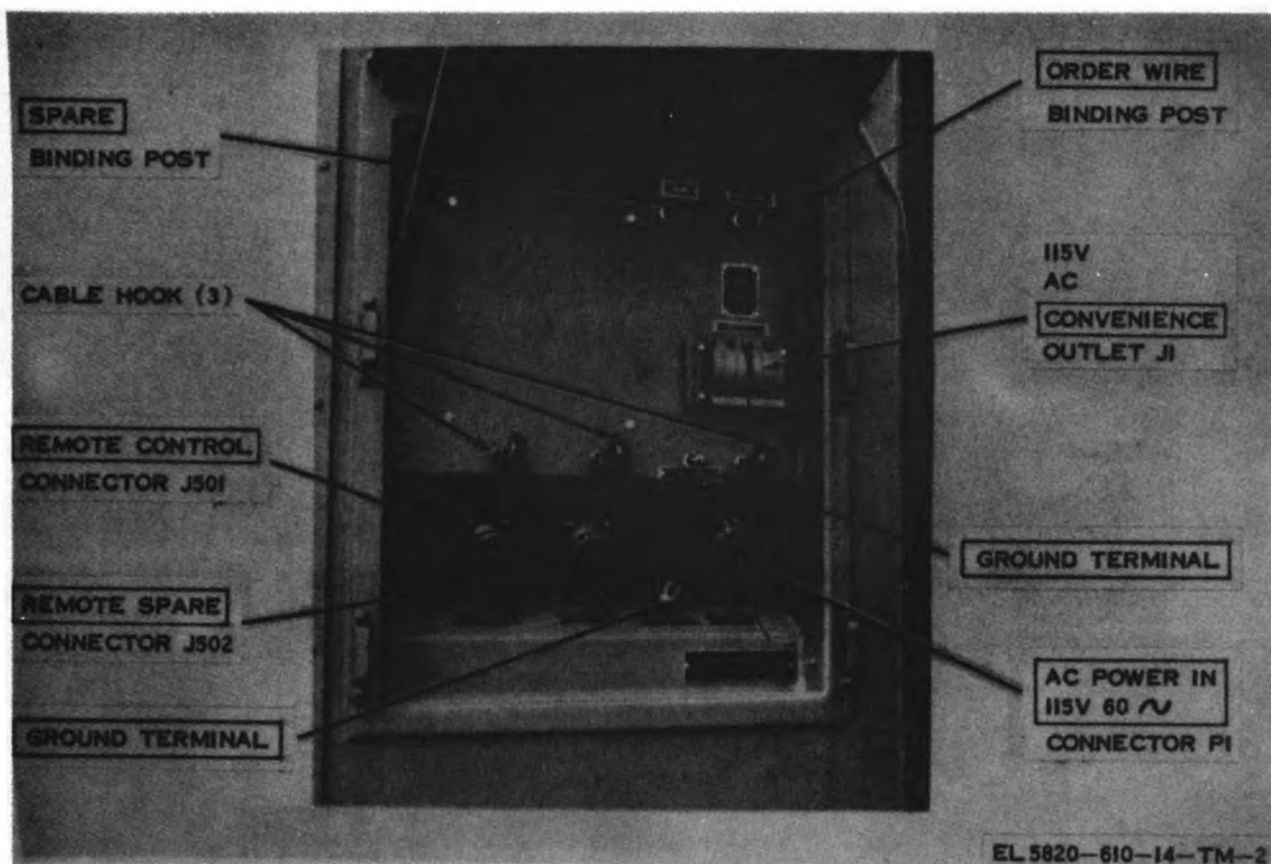

Figure 1-7. AC POWER AND SIGNAL ENTRANCE PANEL.
phase ac power source through the ac power and signal entrance panel (fig. 1-7) when the terminal is in a fixed or semifixed position. During mobile operation, the radio equipment located at positions 1 and 2 is powered from the 28-volt direct current (dc) vehicular electrical system through the dc power and signal entrance panel (A, fig. 1-8) in conjunction with dc Power Supply PP-4765/GRC-159(V) (Collins Model 516E-2). Tuner, Radio Frequency TN-339/GR is provided for use with the whip antenna when operating below 20 MegaHertz (MHz). In addition, Amplifier, Radio Frequency AM-3979/FRC-93 is provided to allow any one of the five positions to transmit on increased output power to extend the operating range of the position so selected. Each radio position is connected to the antenna entrance panel located near the ceiling in the front right corner of the shelter.
f. Signal and Power Entrance Panel (Exterior) (fig. 1-7). An ac power and signal entrance panel